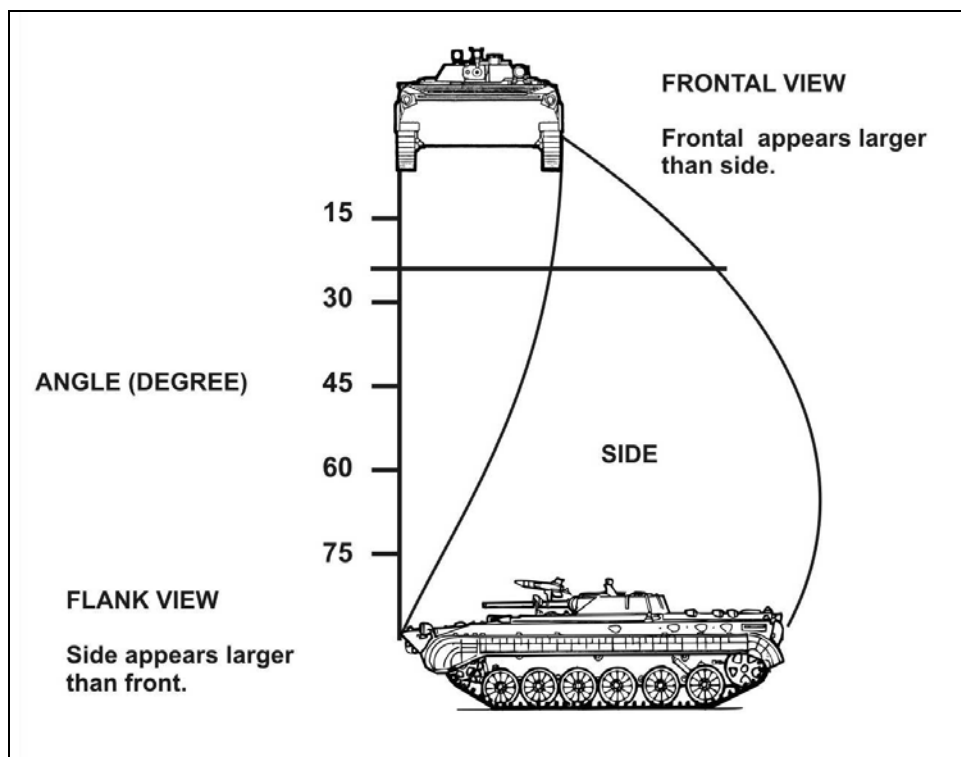
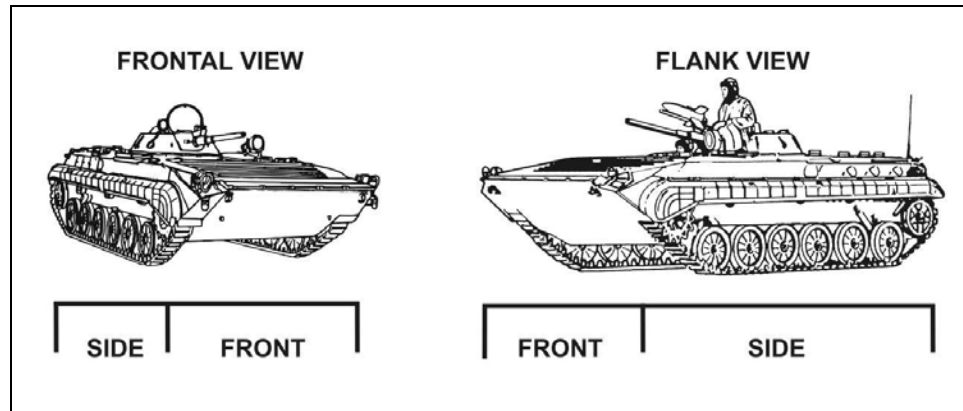

Figure 6-14. Determination of range, frontal or flank view.
Figure 6-15. Determination of vehicle width by comparison of frontal and side views.
(2) **Reticle Lead Line and Mil Relation.** He can use the lead lines on the reticle to determine the range to a target, since each lead line is 2.5 mils from the center of the reticle. First, he must classify the target as a frontal or a flank view (Figure 6-14, page 6-18). Second, he gets the width of the vehicle, either frontal or flank, by comparing the vehicle's frontal and side views. Figure 6-15, page 6-19, shows how much of the front and side of the BMP-based vehicle he can see when the vehicle rotates from full frontal (0 degrees) to full flanking (90 degrees).